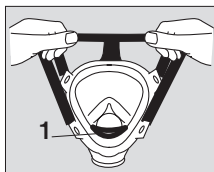

Fig. 3
- Spread the harness, place the chin into the facepiece (Fig. 3), center the harness over the head, ensuring that the harness is lying flat and not twisted.